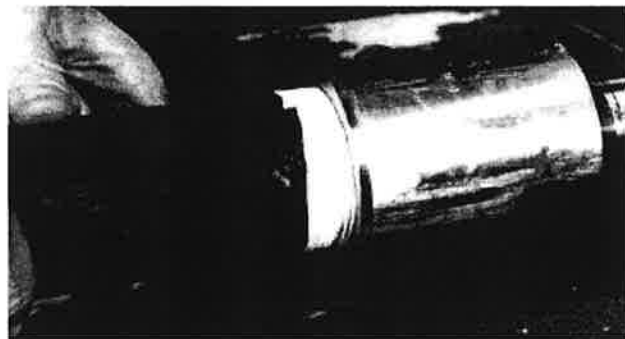

Figure 55. Attach Adapter to Drilling Machine
- B. Attach proper TDW valve adapter on drilling machine (see Parts List, Section IV). Use sealing tape or thread-sealing compound on all threaded connections to assure pressure-tight seal. See Figure 55.
- B. Attach proper TDW valve adapter (from Parts List, Section IV) to drilling machine. Use sealing tape or thread-sealing compound on all threaded connections to assure a pressure-tight seal. See Figure 55.